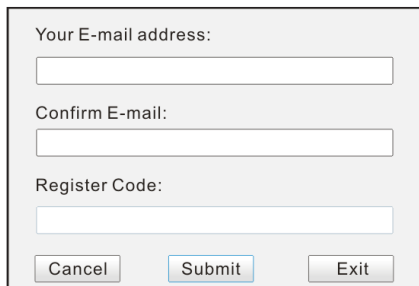

Figure 7-2
4. After the Serial Number is entered, click [Device Update] and enter the following information. Click [Submit] (Figure 7-2).